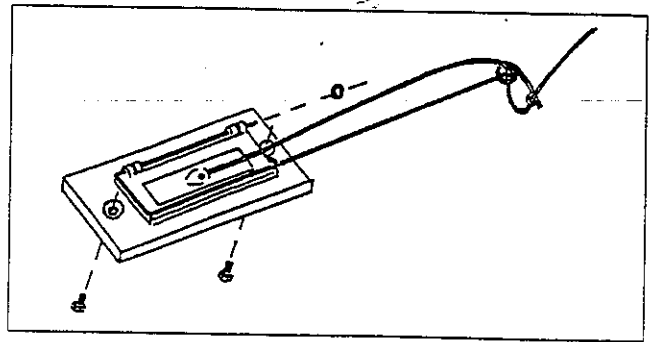

Figure 4. Primary air valve assembly
3. Assemble the primary air valve assembly. Put the air frame face down with the drilled bosses up. Thread the primary air rod through the hole in the bottom of the air valve and just start it into the left top (hinge) hole of the frame. Put the valve and rod in the frame so that the air rod hinge holes align. Push the air rod from left to right through the aligned holes and secure the rod in the frame with the 1/8" friction clip. (Figure 4). Turn the assembly over and install the socket head cap (adjusting) screw, 1/4-20 x 3/8", in the center of the air valve, finger tight.
Pull the running end of the cable over to the valve and thread it through the small hole in the center of the valve. Pull 6" of cable outside the valve. Tighten the set screw finger tight. (Figure 4&5).